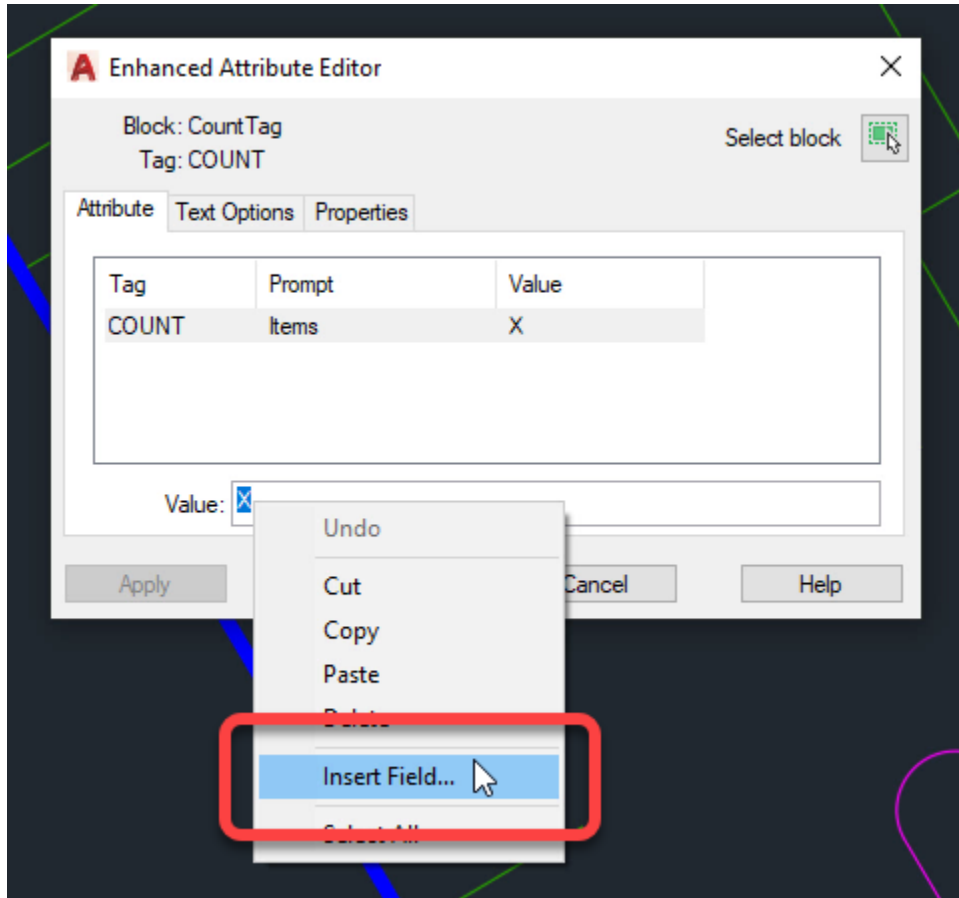

Figure 40: Inserting a Field from the Enhanced Block Attribute Manager dialog box.
2. If using a Block with Attributes, open the Enhanced Block Attribute Manager (BATTMAN), then right-click for Value, and choose Insert Field as shown in Figure 40.